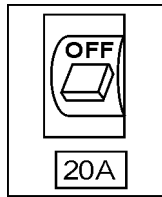

Figure 9. Main Circuit Breaker (OFF)
2. **NEVER** start the engine with the main circuit breaker in the **ON** position. Always place circuit breaker (Figure 9) in the **OFF** position before starting.